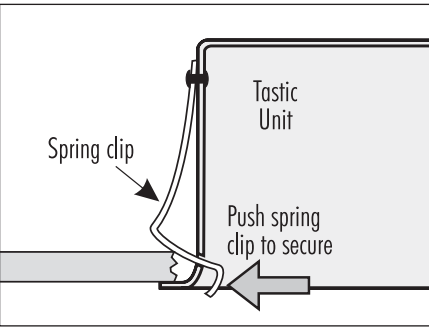

Fig. 12
3. To secure the unit in position, push lower ends of springs apart (Fig 12.). Ceiling board thickness should be adjusted to enable springs to be fitted without excessive force.
7. To secure the unit in position, push lower ends of springs apart (Fig 12.). Ceiling board thickness should be adjusted to enable springs to be fitted without excessive force.